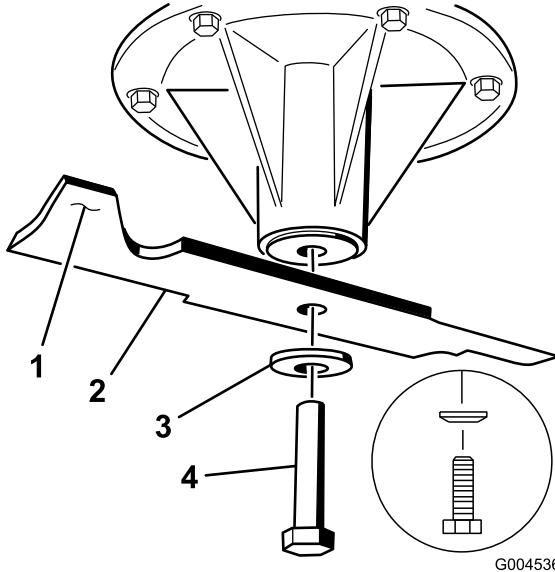

Figure 80
1. Install the blade onto the spindle shaft (Figure 80).
2. Install the spring disk and blade bolt. The spring disk cone must be installed toward the bolt head (Figure 80). Torque the blade bolt to 85-110 ft-lb (115-150 N·m).